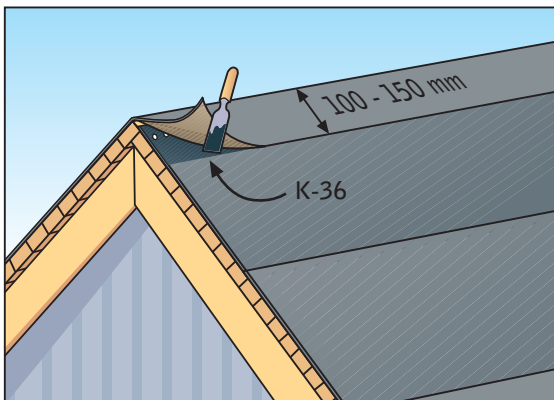

Fig. 4
- On the ridge the underlay sheets of the first slope are cut along the ridge, and then the upper edge is nailed to the deck. The underlayment of the opposite slope is then taken 150 mm over the ridge and bonded to the surface of the underlay membrane of the first side with Sealing Compound K-36 (Fig. 4).